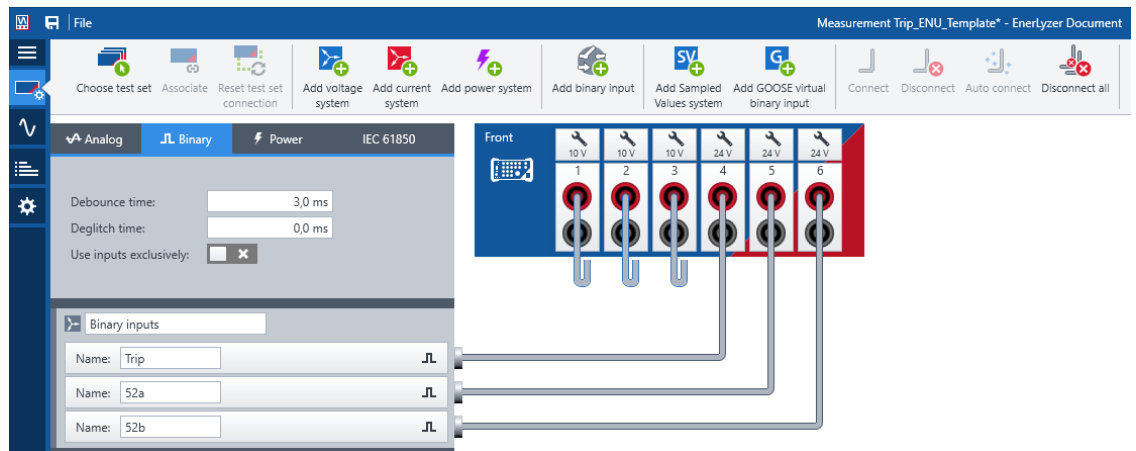

Figure 8: Binary input configuration for trip measurement.
- c. Connection of binary inputs, as exemplarily shown in Figure 8